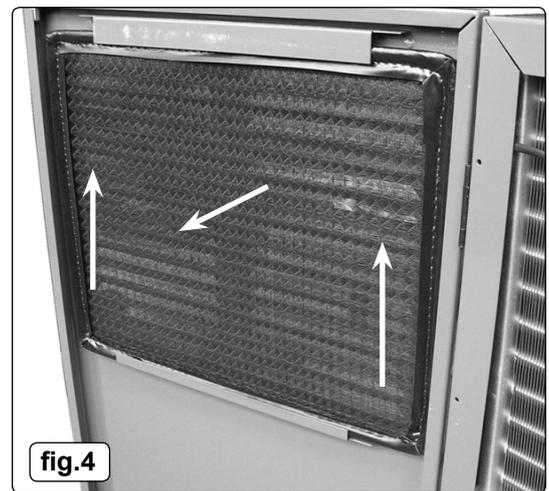

fig.4
5.1.3. Lift up the filter element from the bottom as shown in fig.4 and lift out of the holder.